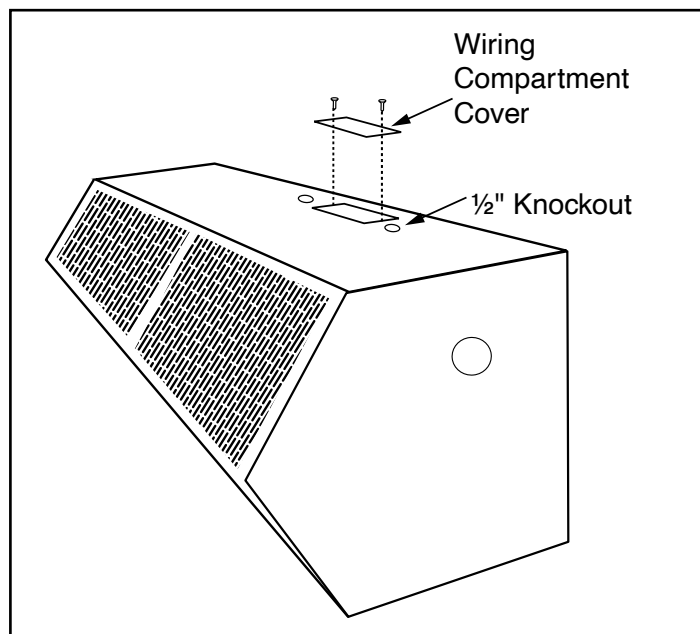

FIGURE 6 - Electrical Connections
C. On top of the air curtain, remove the wiring compartment cover. See **FIGURE 6**.